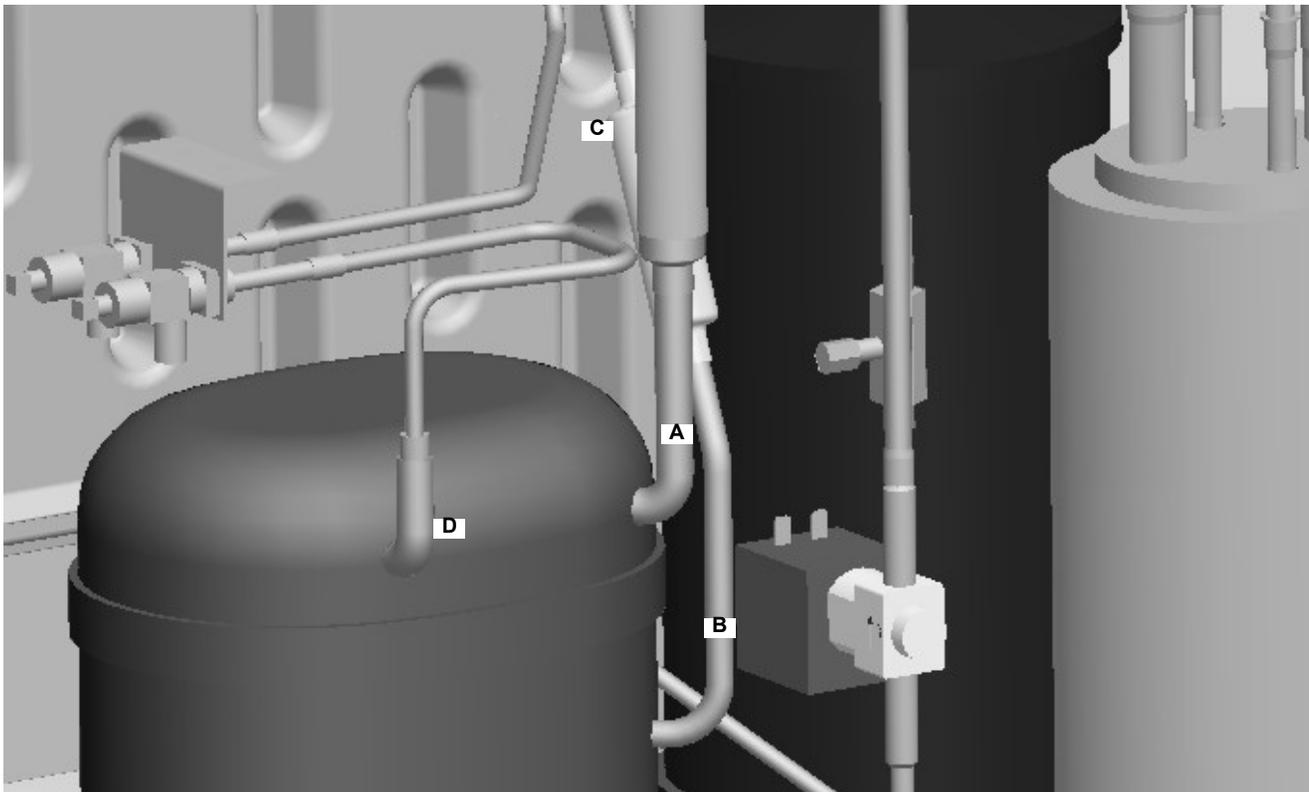

Figure 32.
35. Using clamps or other means, secure the insulation away from the joints and braze the Heat Exchange Suction Line to the evaporator inlet (D) and outlet (E) (Figure 32).